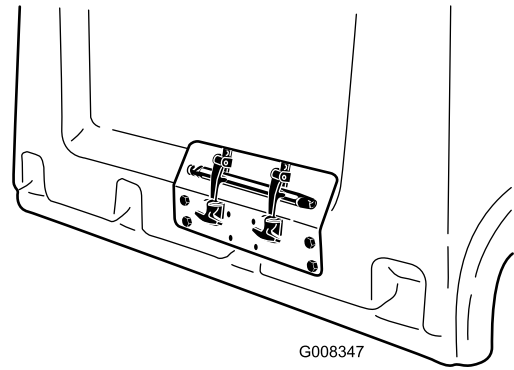

Figure 9
9. Insert the Quick Lock Tool into the slot on the plate and secure with the keepers (Figure 9).